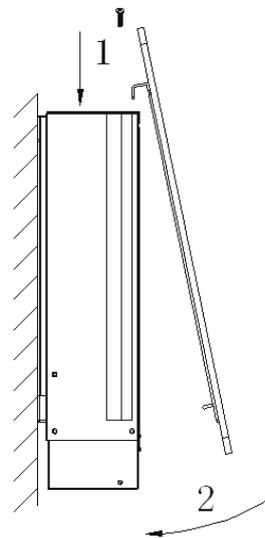

Figure 6
Step 6: Fit the appliances front fascia as shown below. (Figure 6)